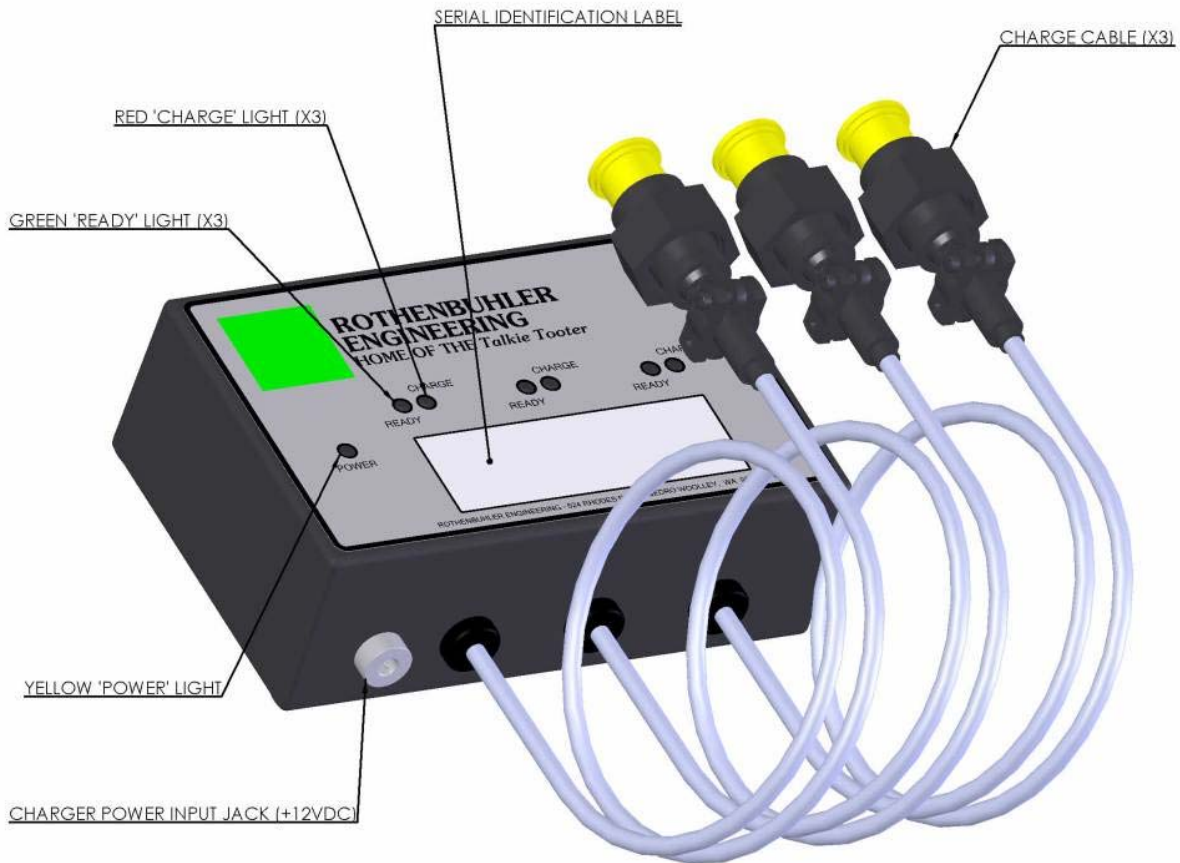

Figure 2-9 3 POSITION CHARGER
2.7.1. Figure 2-9 shows the 3 Position Charger that is used in some of the 1678 RFD Kits. The 3 Position Charger provides a basic 3 to 4 hour recharge for up to three RFD units (e.g. one Mini Controller and two Remotes). It may be stored and used within the 1678 case/foam, or it can be stored and used as a stand-alone device. The unit is sealed at the manufacturer or repair depot and should not be opened during field activity. The 3 Position Charger comes with an AC adapter that can be configured for use internationally.